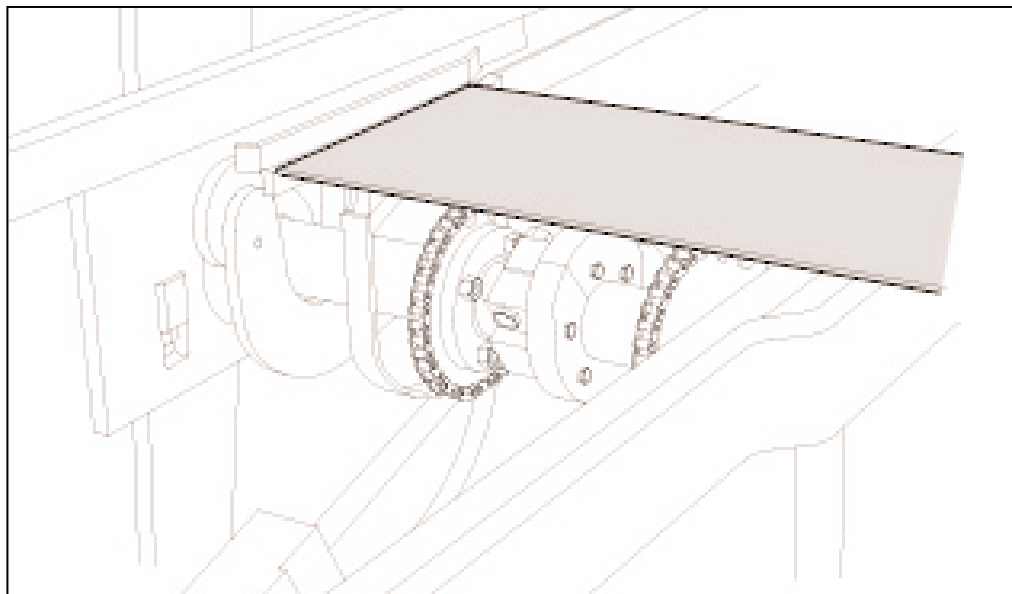
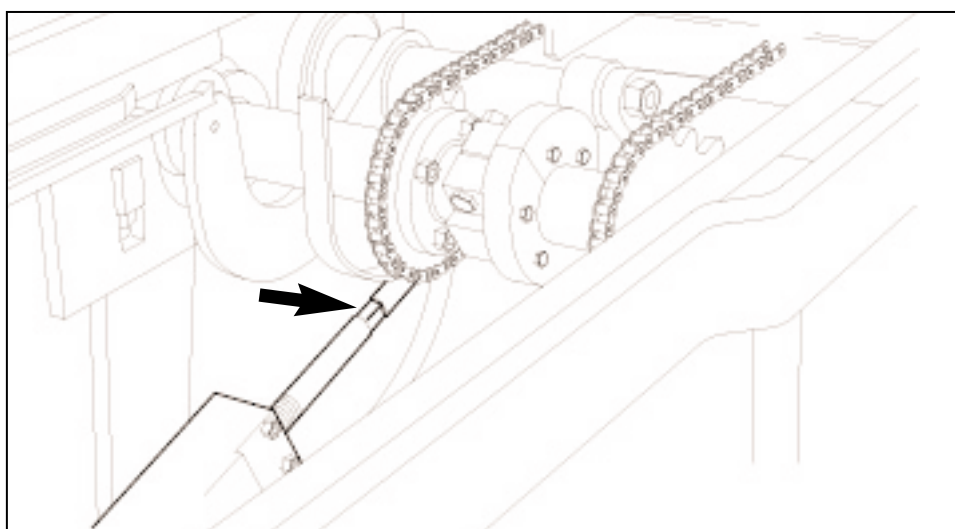

Figure 6.12 PALLET IN CRADLES
Figure 6.13 PALLET MOVING BAR LINK ASSEMBLY
- 6.2.11 Operate machine to bring a pallet forward on pallet moving bars until pallet moving arms start to lift. Adjust pallet moving bar link assembly (see figure 6.13) until pallet is picked up off of chains and brought forward with pallet in cradles as shown (see figure 6.12).
- 6.3.3 Re-check machine for correct timing. Pallet raising cam should start lifting pallet moving bars just as bars reach back position. Cam should set pallet on front delivery conveyor just as bars reach forward position. Pallet moving bars should pick pallet up off of chains with pallet resting in cradles (see figure 6.12). When pallet is conveyed forward in cradles, pallet should be raised to desired position.